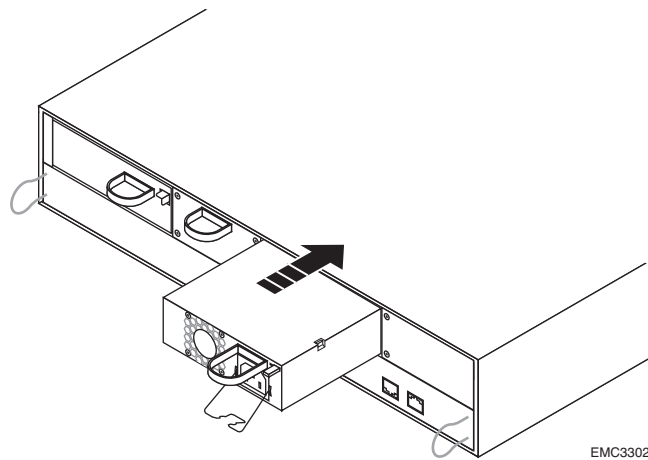

FIGURE 11. Installing an SSR212PP-Series Power Supply
- STEP 6.** Install the power supplies you removed in **STEP 3**. *Gently* insert each power supply straight into the new SP assembly enclosure, being sure to completely seat each supply (Figure 11).